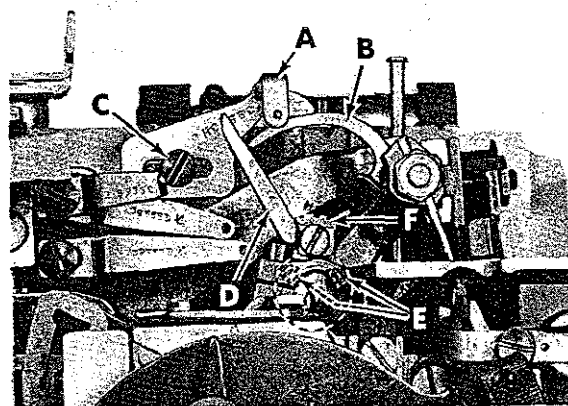

Fig. 21
The needle thread is controlled by the needle thread eyelet (A, Fig. 21) and the needle thread cam pull-off (B). The needle thread eyelet is set so the securing screw is centered in the screw slot front to back. Raise or lower the eyelet to have the needle thread barely touch the needle thread cam pull-off when the needle carrier is in its lowest position. Moving the eyelet up and back increases the needle thread in the stitch, moving the eyelet down and forward acts in the reverse.
Clearance between looper thread pull-off (D, Fig. 21) and needle thread cam pull-off (B) should be only enough to ensure proper take-up of looper thread as shown in Fig. 21.